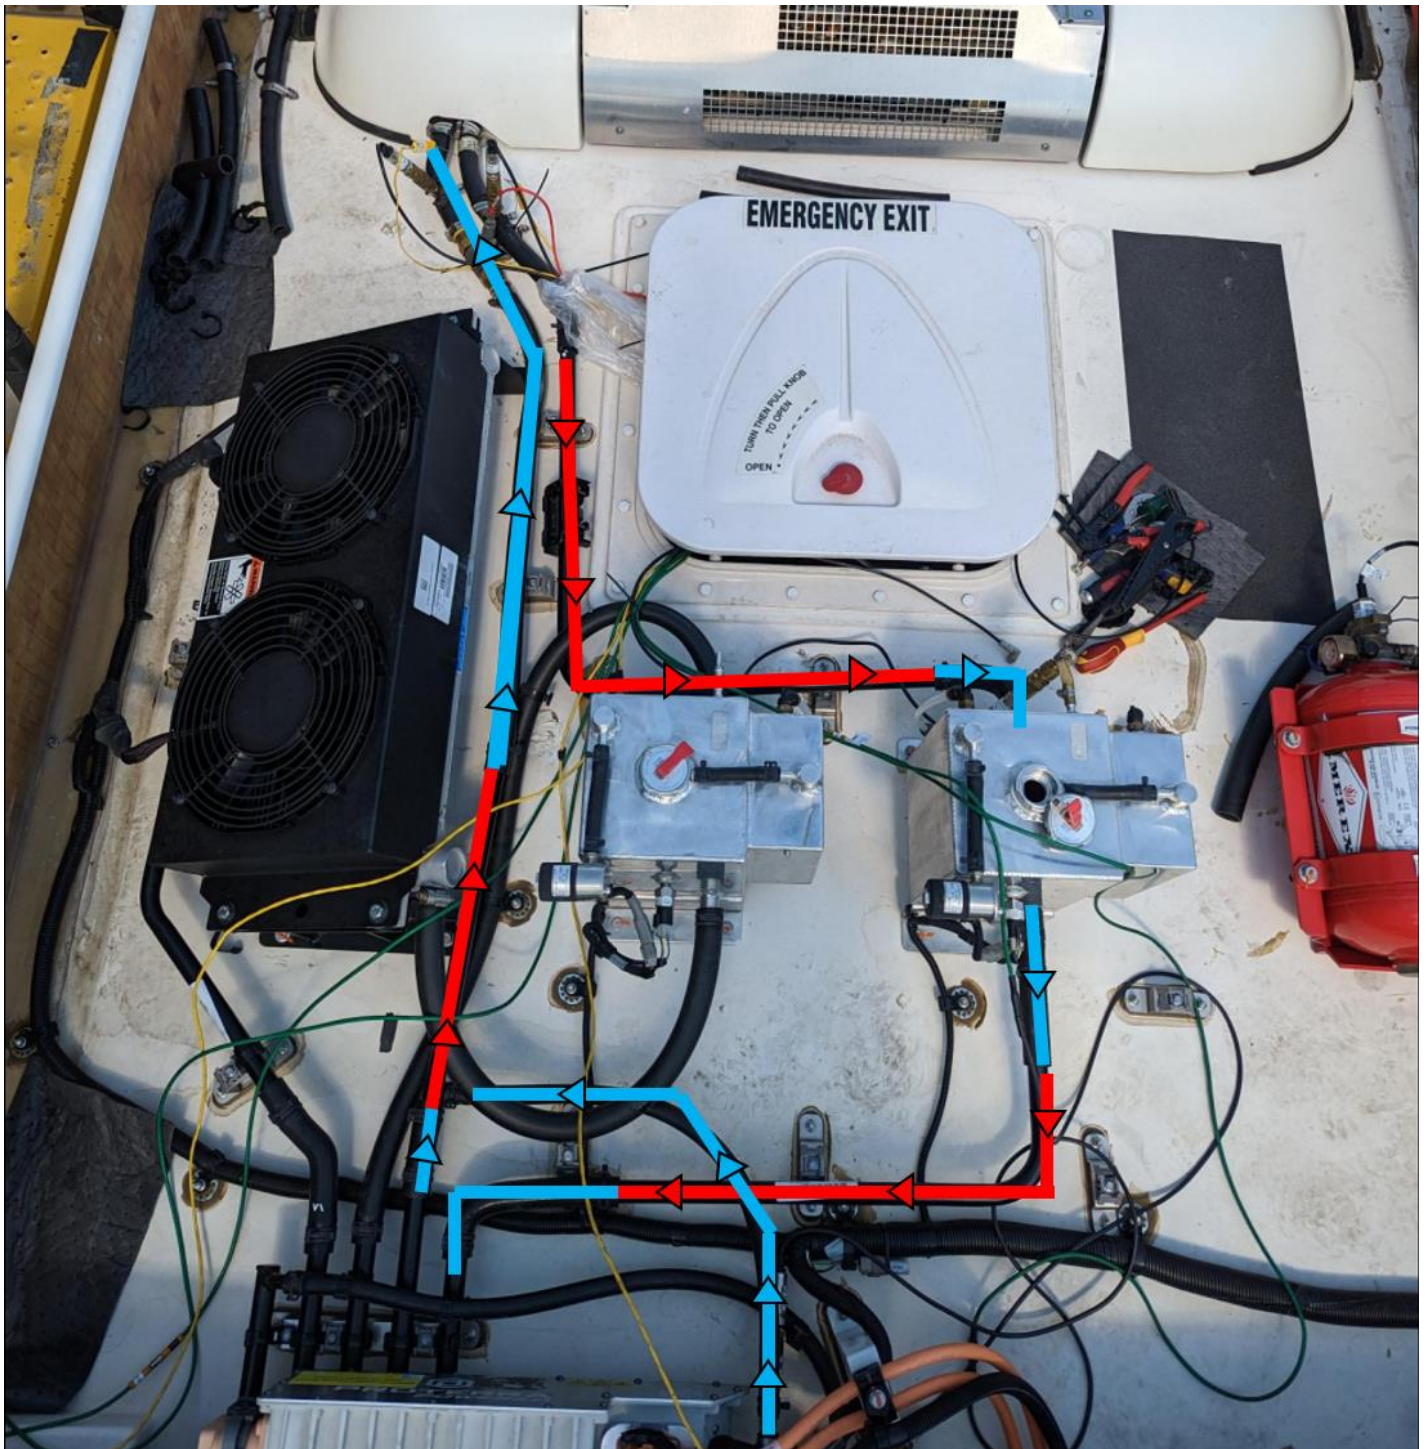

Figure 8
10. Figure 8 shows the updated coolant flow path through the coolant lines.